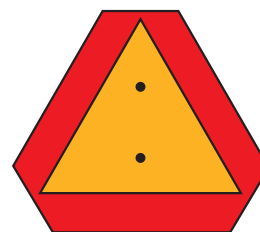

Figure 3-17: SMV Sign
10. Transport during daylight hours whenever possible. Always use tractor or Skid Steer flashing warning lights, except where such use is prohibited by law. Make sure lights, reflectors and SMV emblem are clearly visible and operating. Remove any obstructions such as dirt, mud, stalks or residue that restricts view before transporting. **See Figure 3-17.**